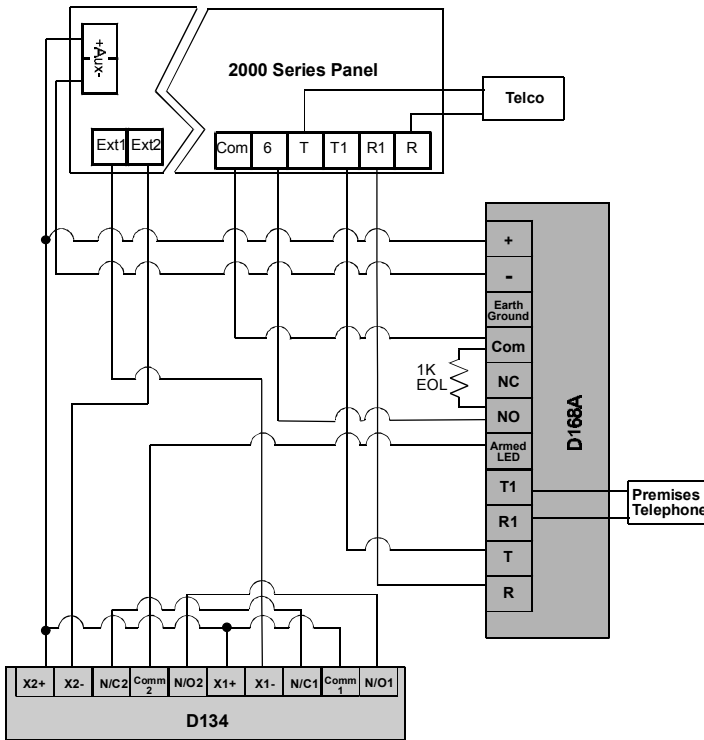
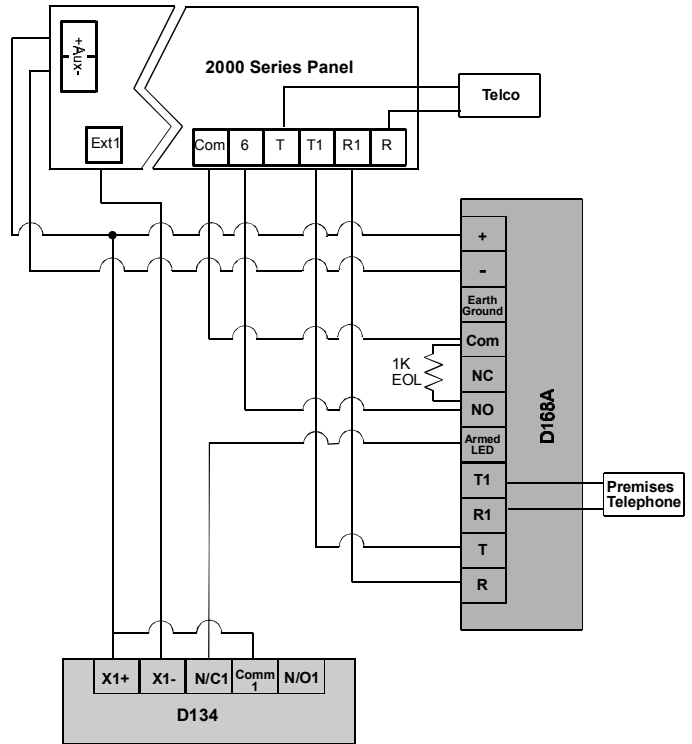

Figure 1: D168A Wiring Using Two Outputs.
Figure 2: D168A Wiring Using One Output.
1. Wire the D168A to the D134 and 2000 Series Control/Communicator as shown in Figure 1 or Figure 2 below. The configuration shown in Figure 1 allows the D168A to announce both the arming state and alarms (this is the recommended configuration). The configuration shown in Figure 2 allows the D168A to announce only the arming state.